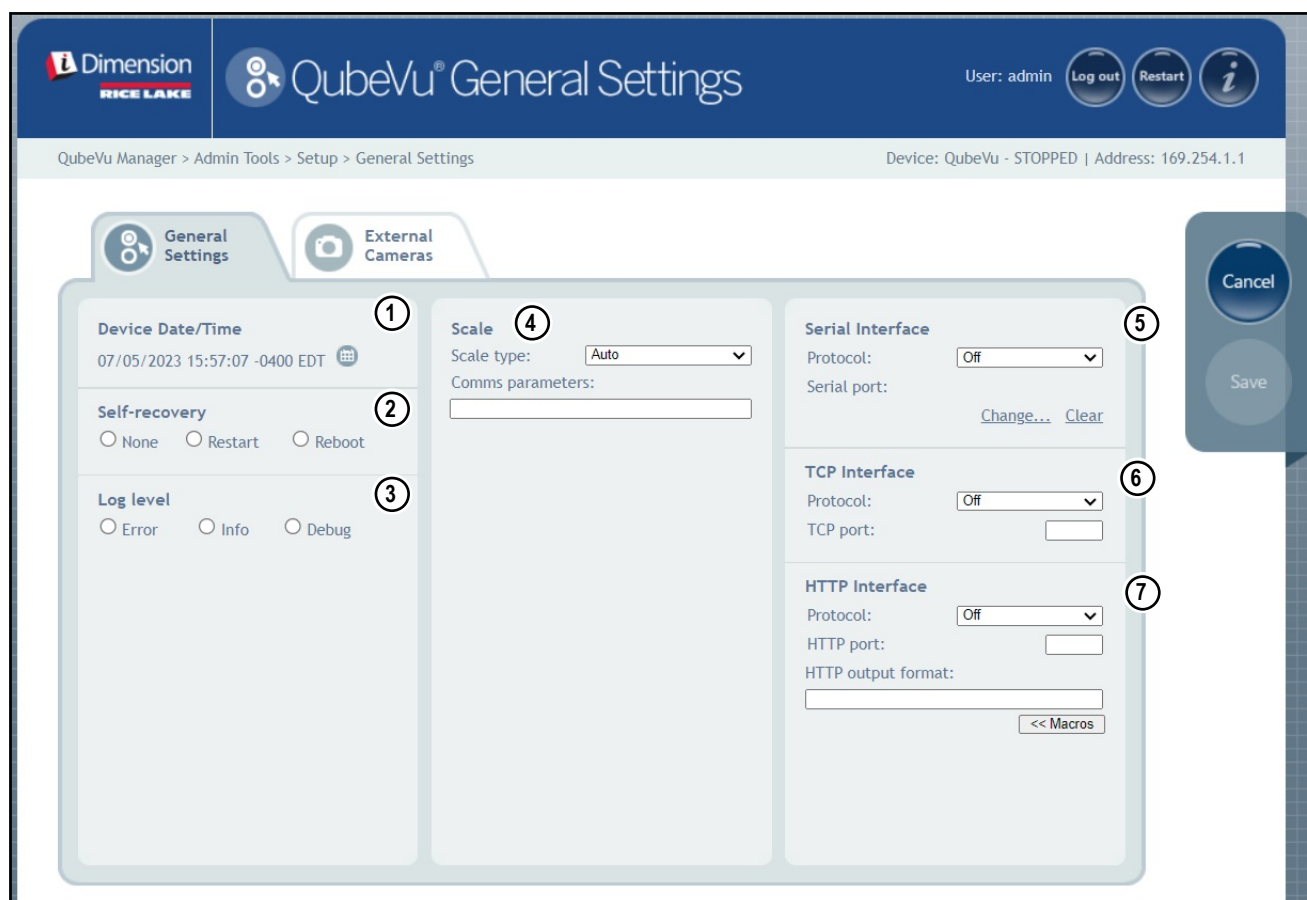

Figure 5-2. General Settings Tab
1. Select **QubeVu** or **Cubiscan 110/150** from the serial interface drop-down list (Item 5 in Figure 5-2 on page 21).